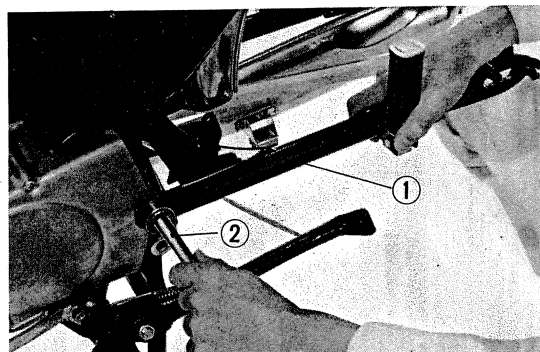

Fig. 139 Rear fork assembly
- 2) Insert the grease coated pivot bushing into the rear fork and install this on frame with the rear fork pivot bolt. (Fig. 139)